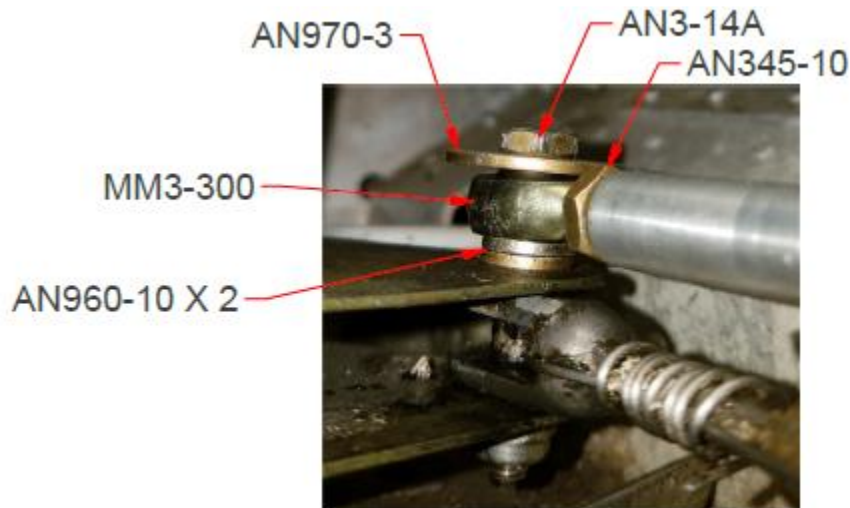

Figure 2-8
- 9.1. Remove the rear aileron bellcrank cable attachment bolt and replace with an AN3-14A , MM-3-300, 2 ea. AN960-10, and AN970-3 washer as shown in figure 2-8.